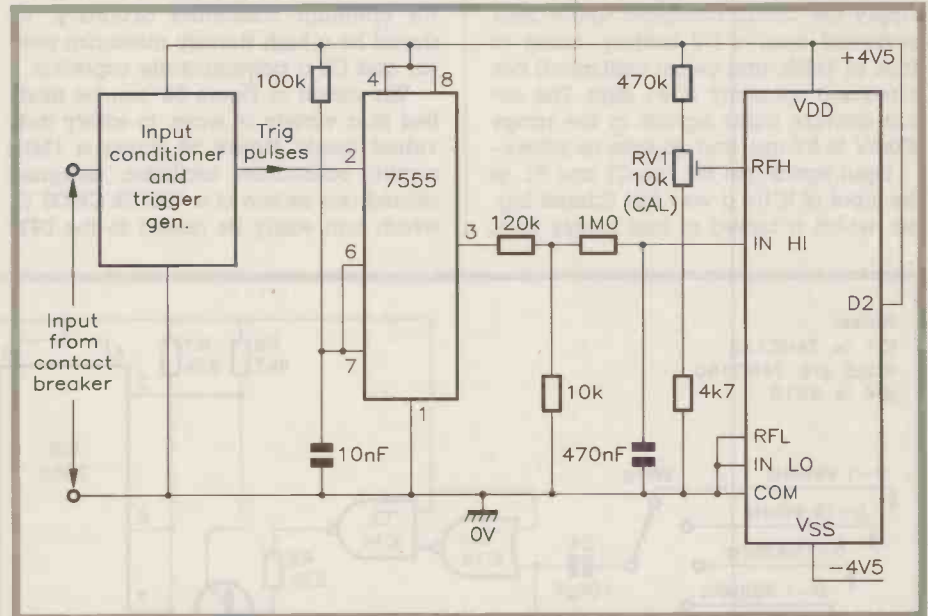

Figure 62. Basic RPM meter, reading 19,990 RPM full-scale from a 4-cylinder 4-stroke petrol engine.
powered engine, for example, is directly proportional to its contact-breaker (CB) frequency, f . On a 4-stroke engine, $f = N \times \text{RPM}/120$, where N is the number of cylinders. Thus, on a single-cylinder engine 10,000 RPM gives a CB frequency of 83.3Hz, and on a 4-cylinder engine a frequency of 333.3Hz. Figure 62 shows the basic circuit of a digital RPM meter, designed to read 19,990 RPM full-scale (10,000 RPM at mid-scale) on a 4-cylinder 4-stroke engine; the 7555 monostable output pulses have a 1ms width.